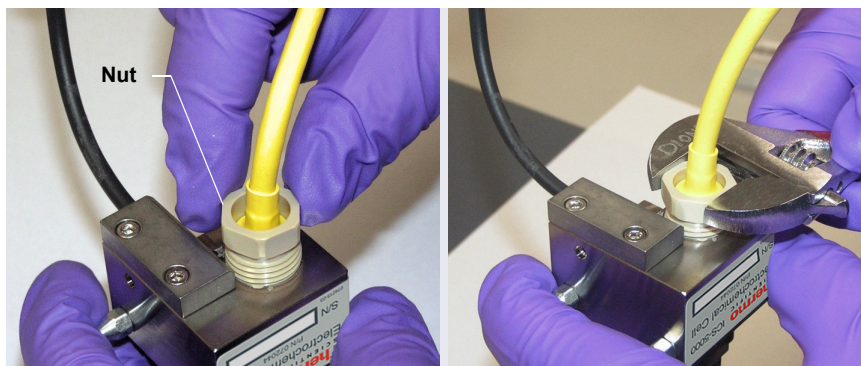

Figure 10-76. Installing the PdH Reference Electrode Nut
10. Screw the nut on the PdH reference electrode into the reference electrode well and tighten it fingertight (see Figure 10-76). After fingertightening, use a wrench to tighten the nut an additional 20 to 30 degrees.